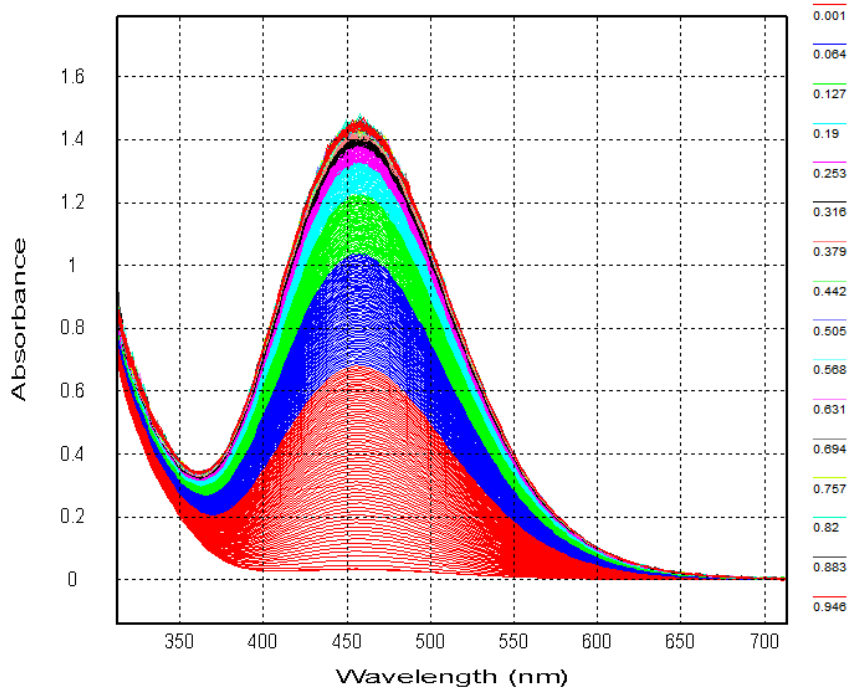
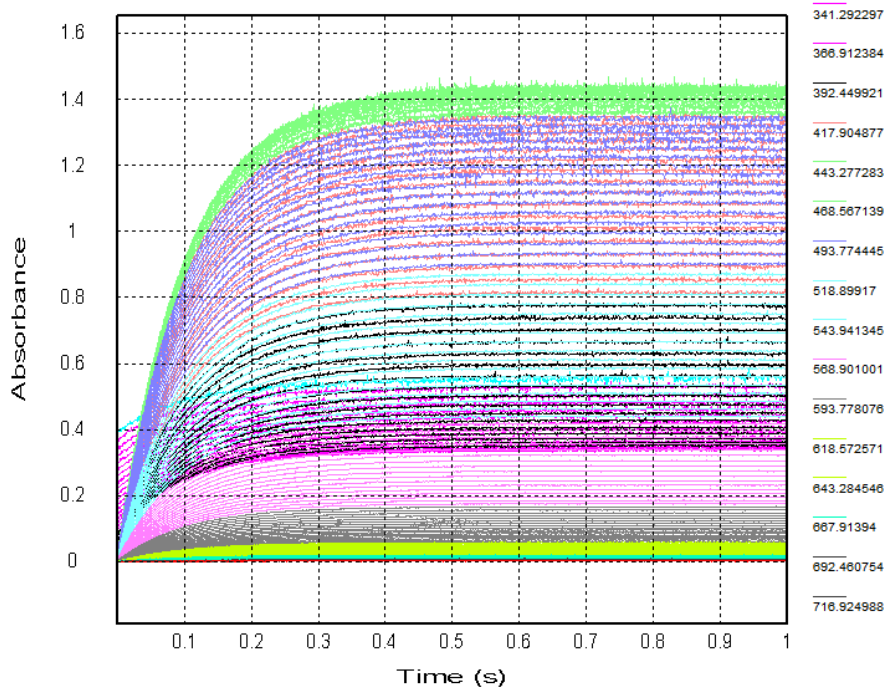

Figure 2.4 - PDA trace of iron perchlorate (20 mM) in perchloric acid (80 mM) reacted with sodium thiocyanate (1 mM) over 1 s (330 – 720 nm)
Figure 2.5 - PDA trace of iron perchlorate (20 mM) in perchloric acid (80 mM) reacted with sodium thiocyanate (1 mM) over 1 s (330 – 720 nm).
4. Your data should look like that in Figure 2.4 and Figure 2.5.